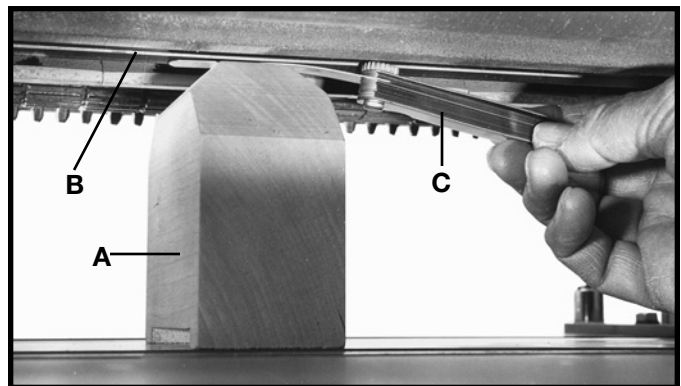

Fig. 46
- Place gage block (A) Fig. 46, on the table, directly under the cutterhead (B). Using a .040" feeler gage (C) placed on top of the gage block (A), raise the table until the cutterhead knife just touches feeler gage (A) when the knife is at its lowest point. **NOTE:** Do not move the table any further until the adjustment is complete.